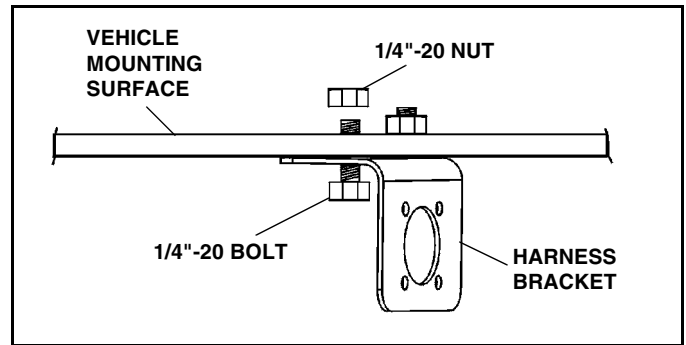

Figure 1-2
2. Install 1/4"-20 bolts up through bracket and vehicle bumper or other mounting surface. Secure with 1/4"-20 nylon locking nuts and tighten. (See Figure 1-2)